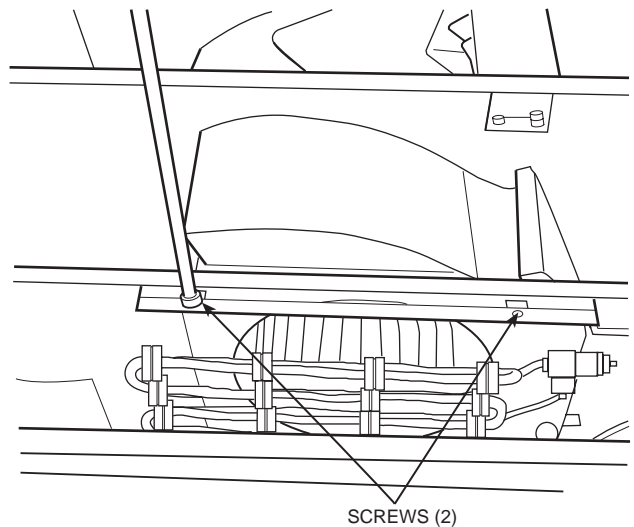

FIGURE 42 — REMOVING HEATER SCREWS
6. Remove the two 1/4-in. screws mounting the heater assembly to the inside of the partition. Save the screws. See Figure 42.